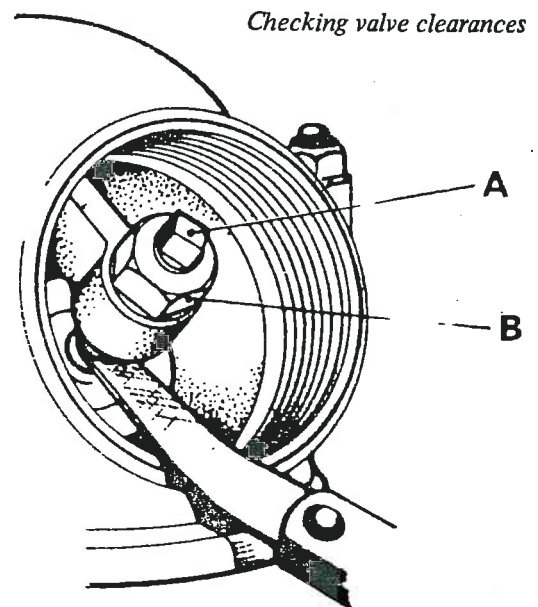

Fig. 12
If the clearances require adjusting slacken the locknut (A) and adjust the pin (B) until the correct gauge will just slide between the valve stem and pin (see inset, Fig. 12).